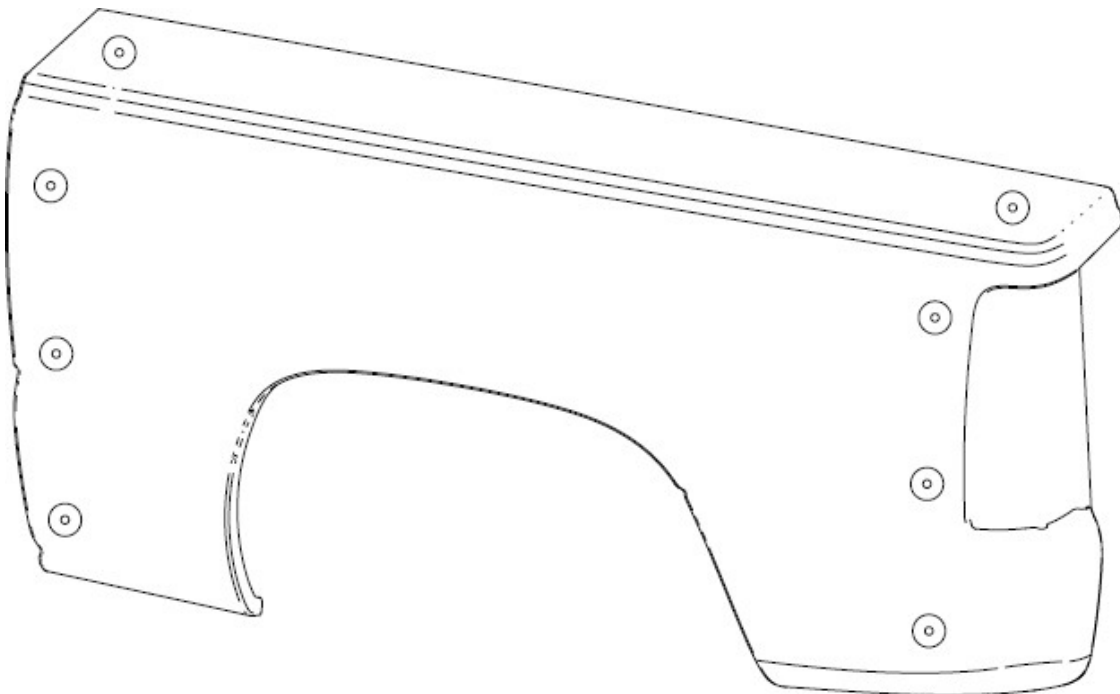

Figure 10 TRUCK BEDSIDE PANEL
- Bed sides must have a minimum of four ¼inch minimum bolts or Dzus buttons evenly spaced at front of bedside and four ¼ inch minimum bolts or Dzus buttons evenly spaced at rear of bedside. Bolts or Dzus buttons must have 2 inch washers and be aligned in a vertical fashion. Forward bed side hangers must be independent of cab. See diagram on FIG 10.